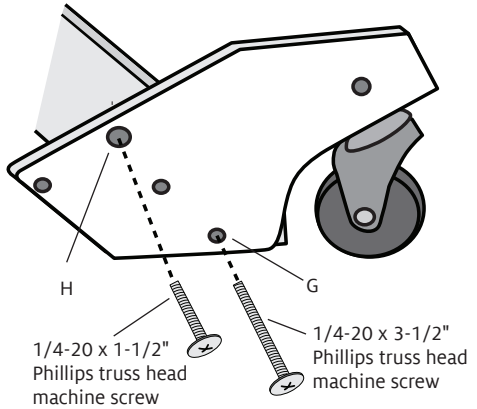

FIGURE 4: REAR CASTER BLOCK AND OUTSIDE LEG
6. Set a caster block on the outer side of an outside leg, with the caster wheel toward the back and the floor (Figure 4). Line up hole [G] at the bottom of the caster block to hole [B] in the outside leg. Insert a 1/4-20 x 3-1/2" Phillips truss head machine screw through the caster block and leg. The screw will thread into an insert in the height extender block that you cannot see; fasten securely. Repeat with another caster block and the other outside leg height extender block.
7. Attach the tops of the caster blocks: Insert a 1/4-20 x 1-1/2" Phillips truss head machine screw into the top hole [H] of a caster block (Figure 4). The screw will thread into an insert in the height extender block that you cannot see; fasten securely. Repeat for the other outside leg height extender block.